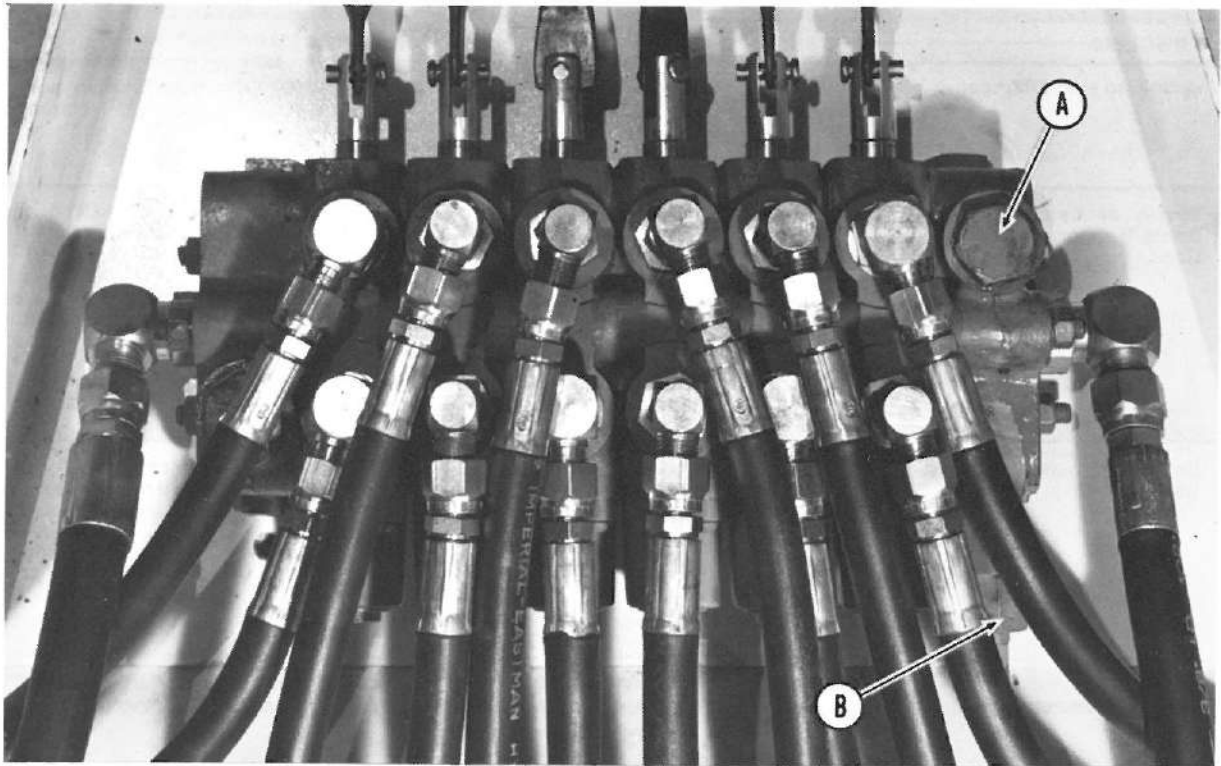

Figure 22
1. Remove O-ring plug (Point A — Figure 22) and install a hydraulic gauge and adapter at this point. *A gauge and adapter kit can be ordered from the factory — Part #BVV10076.*
To adjust the main relief (Point B — Figure 22) remove cap, loosen locknut, hold stabilizer in top position as described in item number 3 above. Screw clockwise to increase pressure or counter clockwise to decrease pressure. When the correct pressure is reached (1400 P.S.I.), lock nut and replace cap.